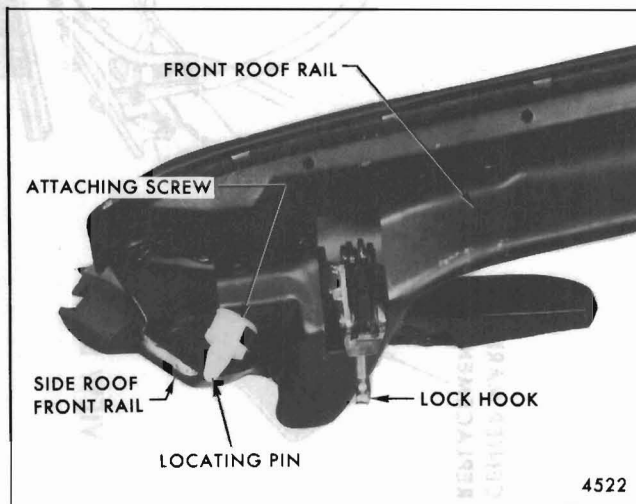

Fig. 16-Front Roof Rail Locating Pin
A locating pin, of plastic construction, secures to the front of each side roof front rail by an attaching screw (Fig. 16).
2. Remove attaching screw and remove locating pin (Fig. 16).